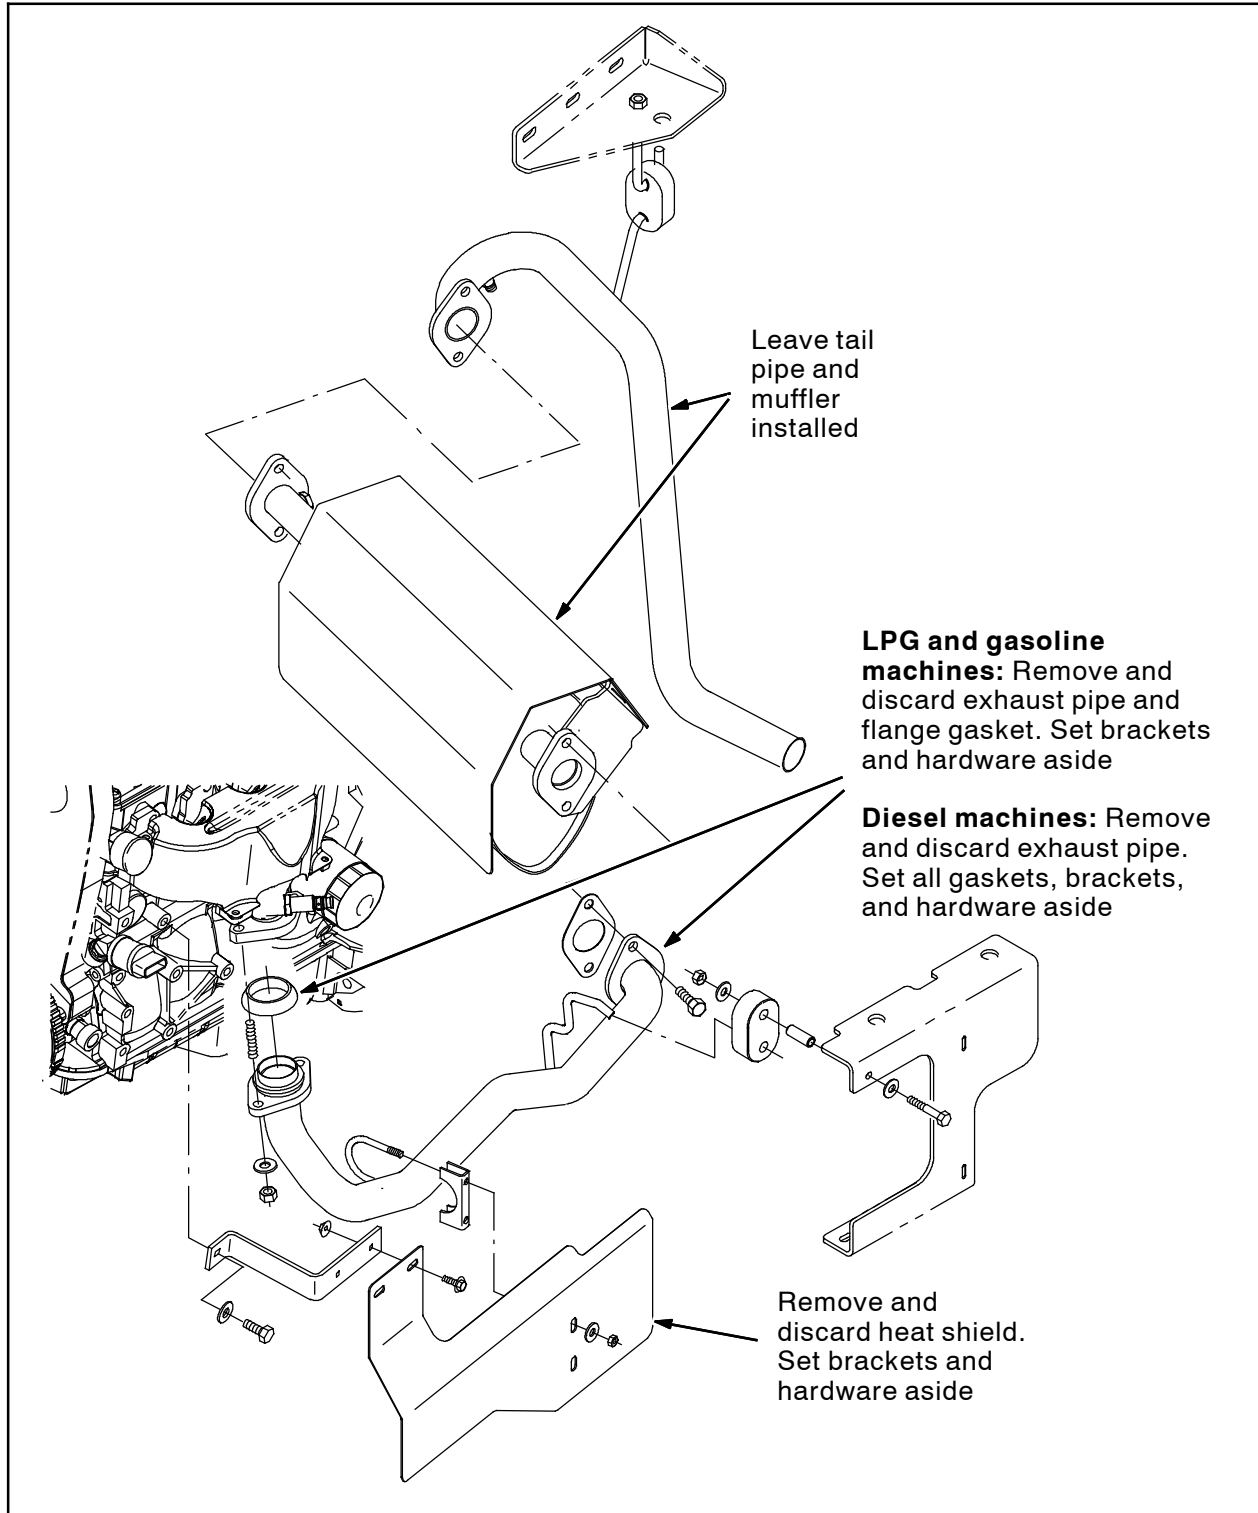

FIG. 77
95. Remove the heat shield from the machine. Set the hardware aside. Discard the heat shield. (Fig. 77)
96. Remove the exhaust pipe from the machine. Discard the exhaust pipe. Set brackets, gasket, and hardware aside. Leave the muffler and tail pipe installed on the machine. (Fig. 77)